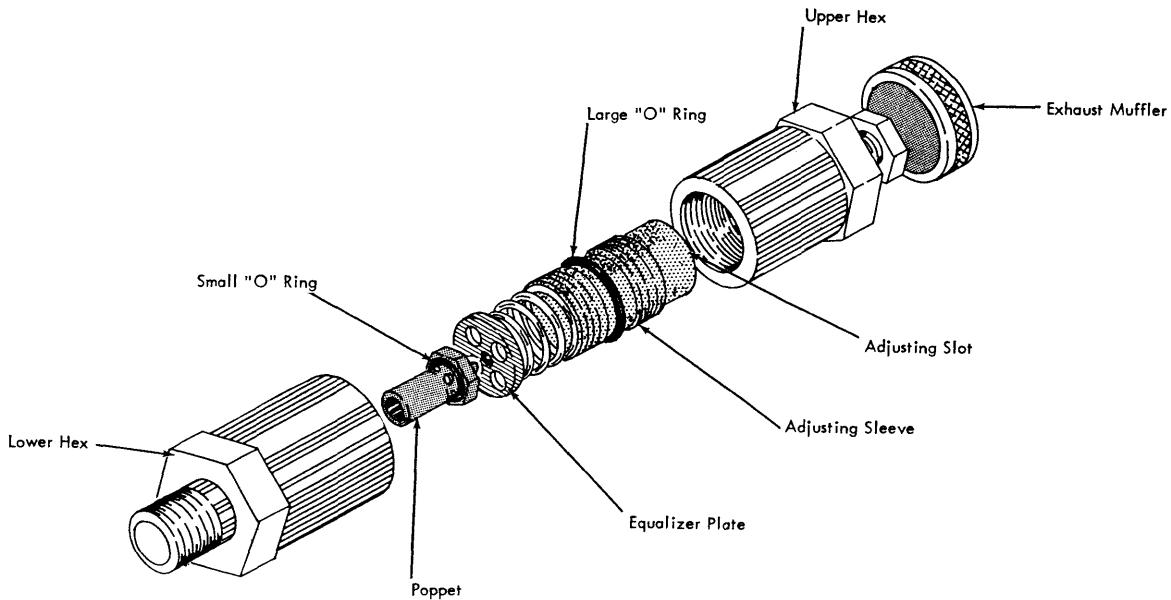

Figure 83. Relief Valve (B and G)
#### Relief Valve (Figure 83)
2. Replace equalizer plate above poppet making sure that the center flat-surfaced boss is on top (See Figure 83).